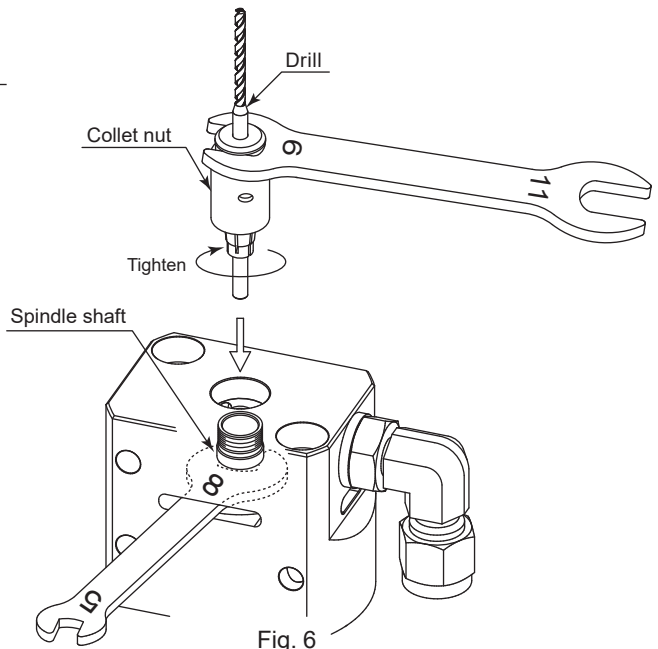

Fig. 6
(2) Insert the cutting drill into the collet, and attach the cutting drill and the collet nut to the spindle shaft. (Fig. 6)
(3) Place the provided 8mm wrench on the wrench flats of the spindle shaft.